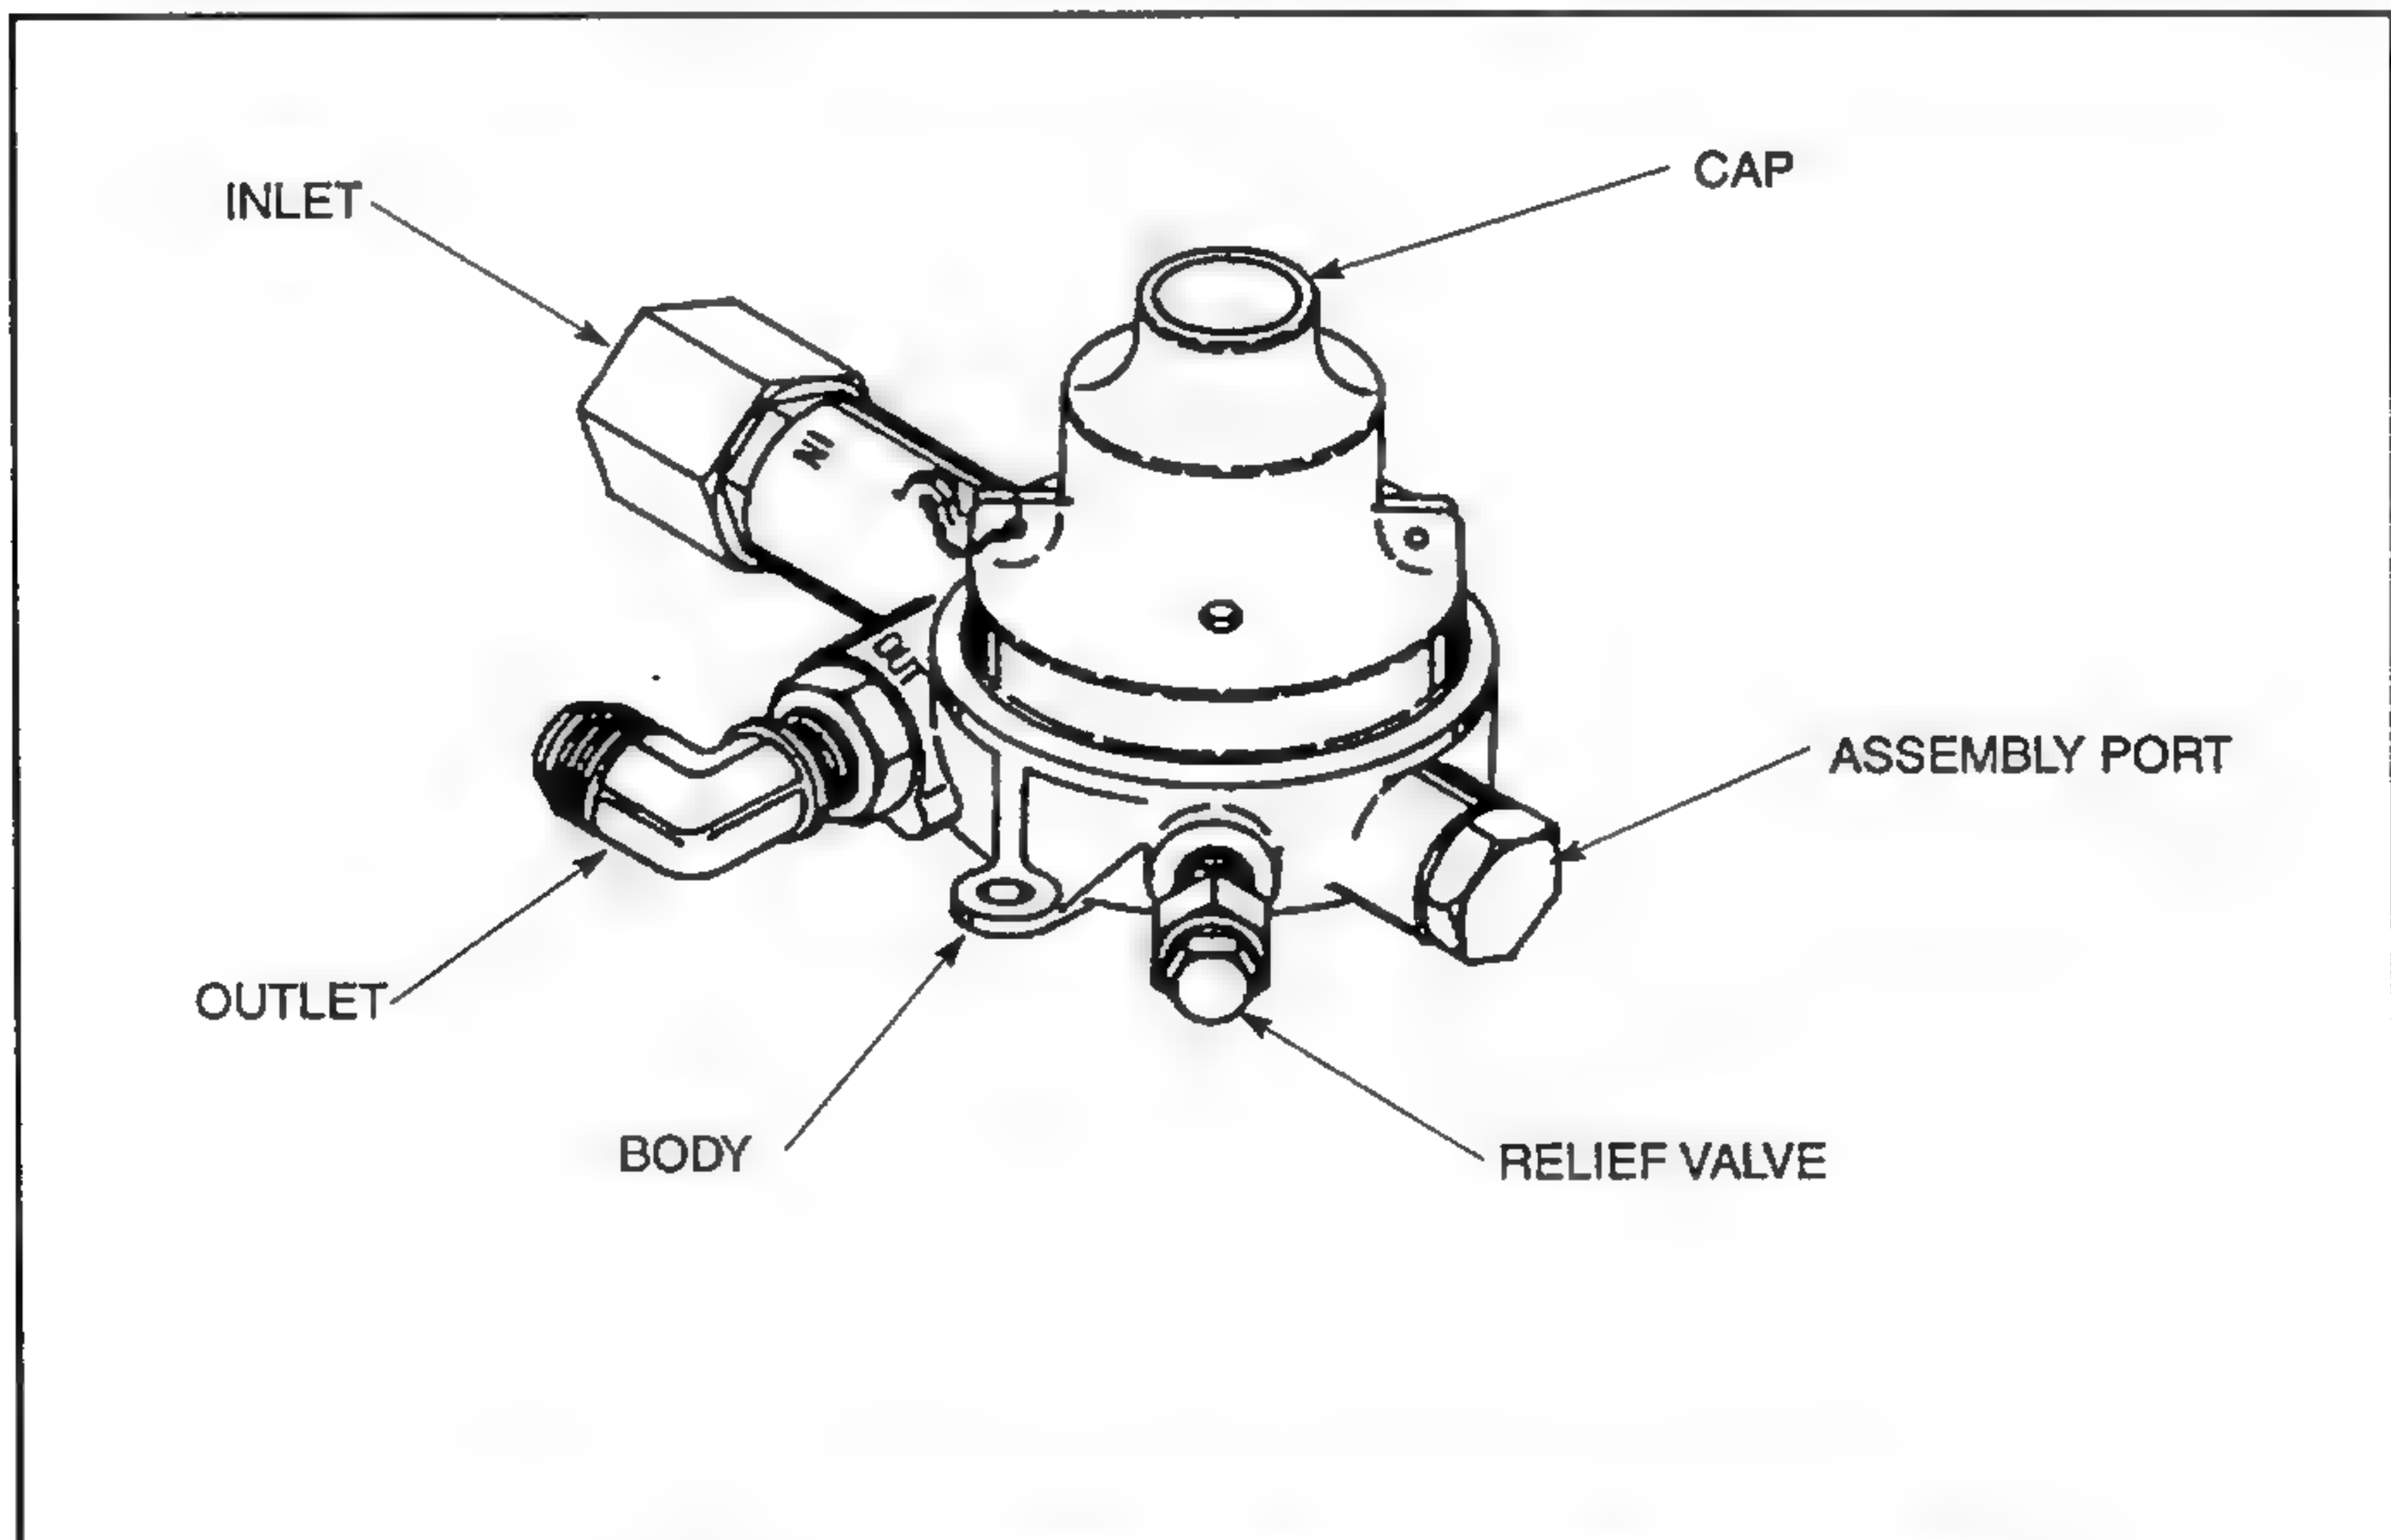

Figure 1 - Oxygen Regulator Assembly (27660 -5/-05 shown)
This manual provides overhaul instructions with illustrated parts list for the 27660 Series Oxygen Regulator Assemblies (see Figure 1).
- (1) Plug outlet port (14) of regulator being tested.
- (2) Adjust oxygen regulator (6) to apply the inlet pressures (listed in Table 103) to the regulator being tested.
- (3) Apply leak test solution around head of screw (185, IPL Figure 1), plug (260), relief valve (270 or 270A), hole in cap (85 or 90), where cap (85, 90 or 91) and body assembly (275 or 280) thread together, and at connection of nipple (140) to body assembly (275 or 280). No leakage is allowed.
- (4) Relieve pressure in the test setup; remove plug from regulator outlet port (14). Blow the regulator clean and dry with oil-free air.
NOTE: Relief valve (270 or 270A, IPL Figure 1) may be tested separately prior to installation in the unit.